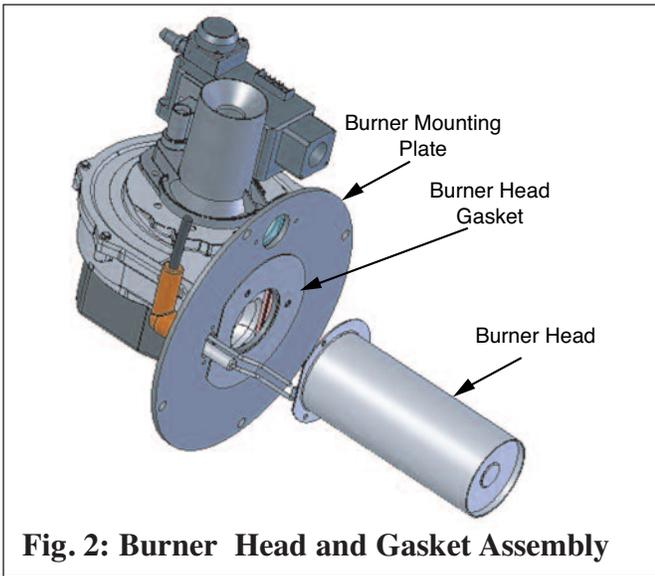

Fig. 2: Burner Head and Gasket Assembly
14. With the new gasket in place attach the new burner head to the burner mounting plate using the screws supplied in the kit, as shown in Fig. 2.